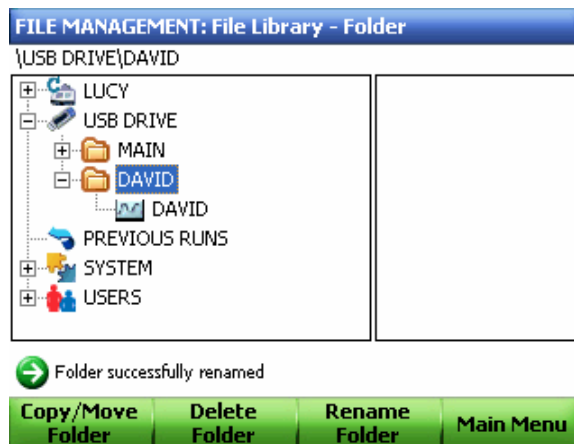

Figure 88. The folder was successfully renamed.
5. Select **OK** and confirm that the folder was successfully renamed (Figure 88).